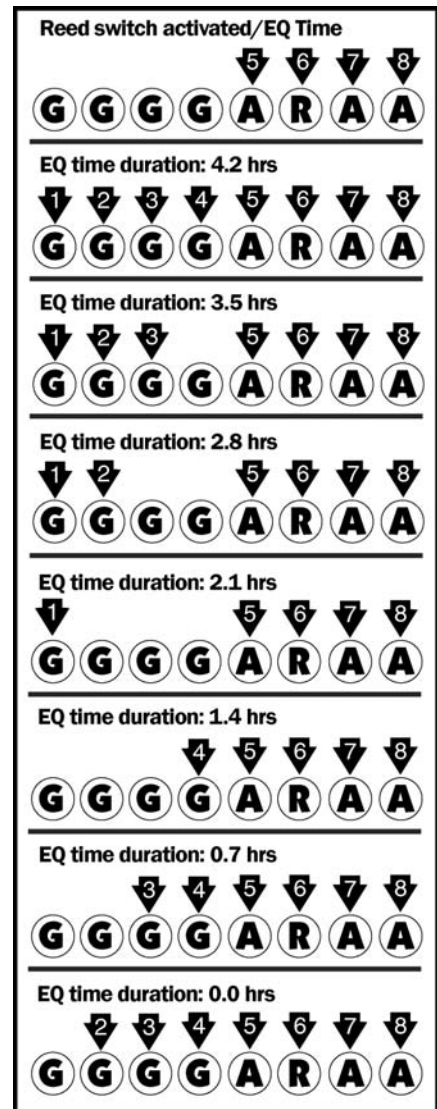

Figure 18 - LED display indicating advanced EQ time adjustment.
1. When the LED display indicates entry into the Equalization Time Adjustment mode, as shown in **Figure 18**, ACTIVATE-HOLD the switch with your magnet. The display will show the system default time. Release the switch, wait for the green light to go out, and re-activate/hold switch. Equalization Time Adjustment values will scroll through the values shown in **Figure 18**. Reversing the process will scroll downward.